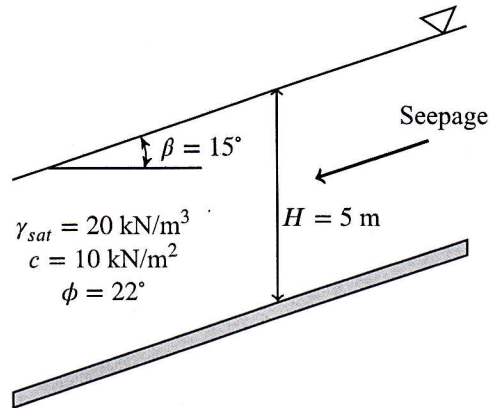

Figure 5: for QUES 8(b)
8. (a) Derive an expression for the factor of safety (F_s) of an infinite slope without seepage. (10)
- (b) For the infinite slope shown in the following figure (Fig. 5), determine: (6 $\frac{2}{3}$)